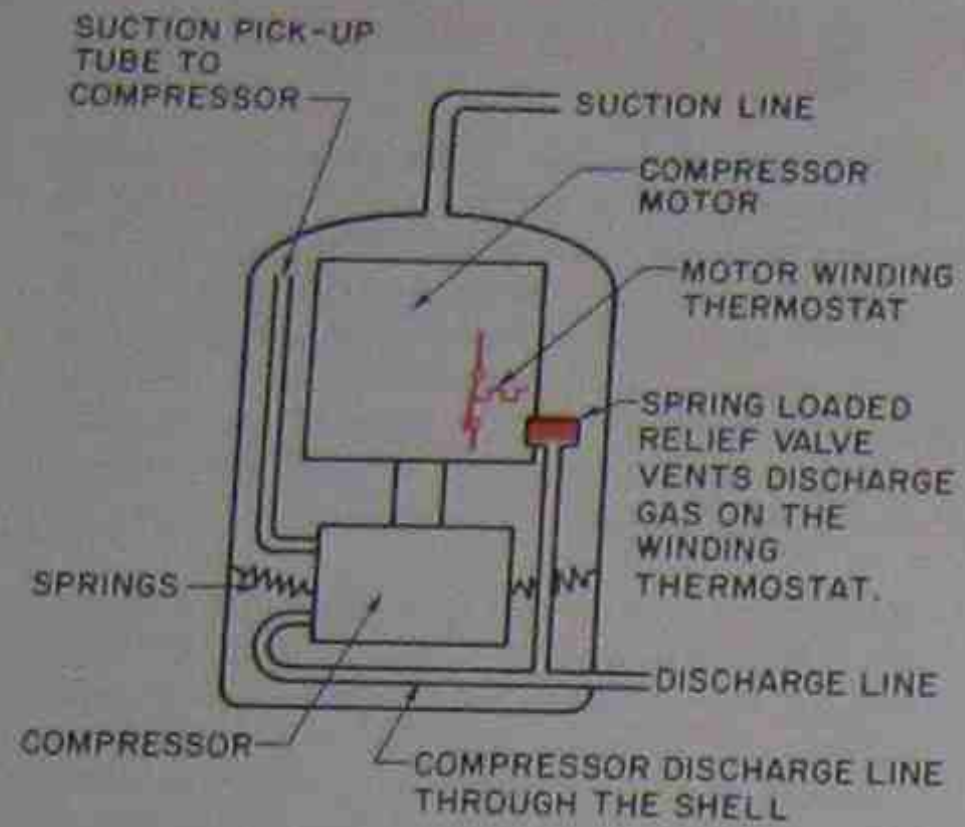

Figure 41-20. How the internal relief valve functions in a welded hermetic compressor.
- C. \*Internally in most compressors there is a pressure relief valve that will relieve hot gas from the compressor discharge onto the motor winding thermostat if a great pressure differential is experienced, Figure 41-20.\* Suppose the condenser fan motor